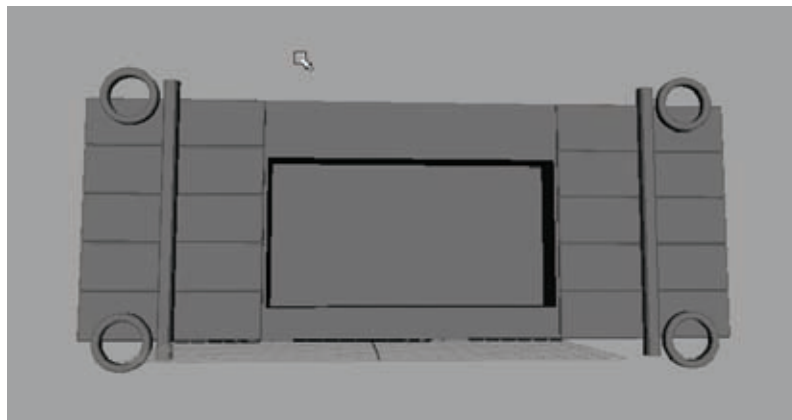

Figure 5.3
7. Duplicate both pipes and the cube and mirror them to the other side of the plane. You should have something like you see in Figure 5.3.